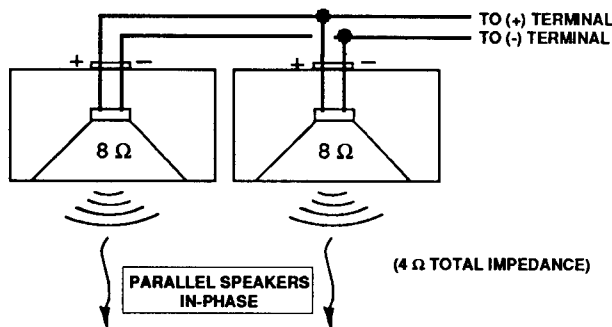

Figure 4
- A. When you connect speakers to the TO SPEAKERS jacks on the Mixer's rear panel, you are connecting them in parallel (see Figure 4). For example, if you are using two Electro-Voice 100S speakers ( $8\ \Omega$  each), the total impedance will equal  $4\ \Omega$ .